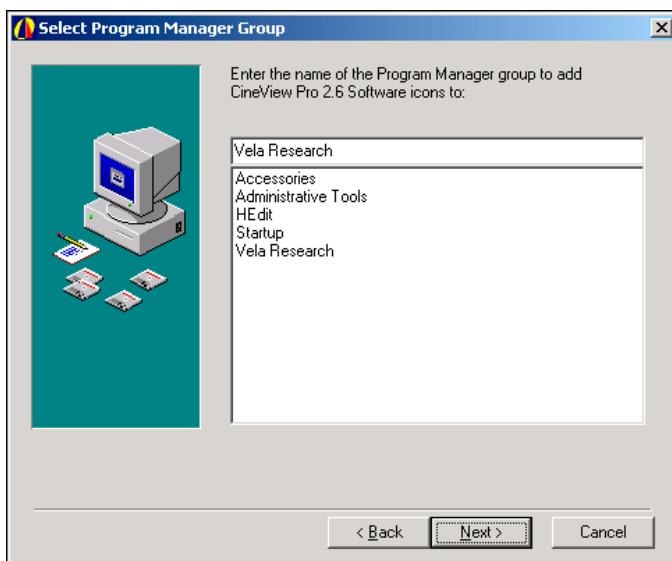

Figure 1-15. Program Manager Group Screen
- On the “Select Program Manager Group” screen (Figure 1-15), accept Vela Research by clicking Next.